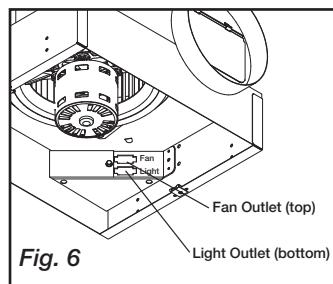
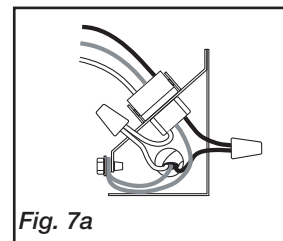
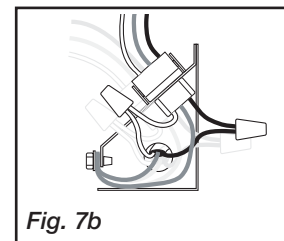

Fig. 6
Fig. 7a
Fig. 7b
- If installed, remove wiring cover. If fan/light combination is being used, make sure the fan plug is connected to the fan receptacle and the light plug is connected to the light receptacle, shown in Fig. 6. Using proper wire connectors, wire the fan as shown in Fig. 7a. For wiring of light proceed to Fig. 7b.